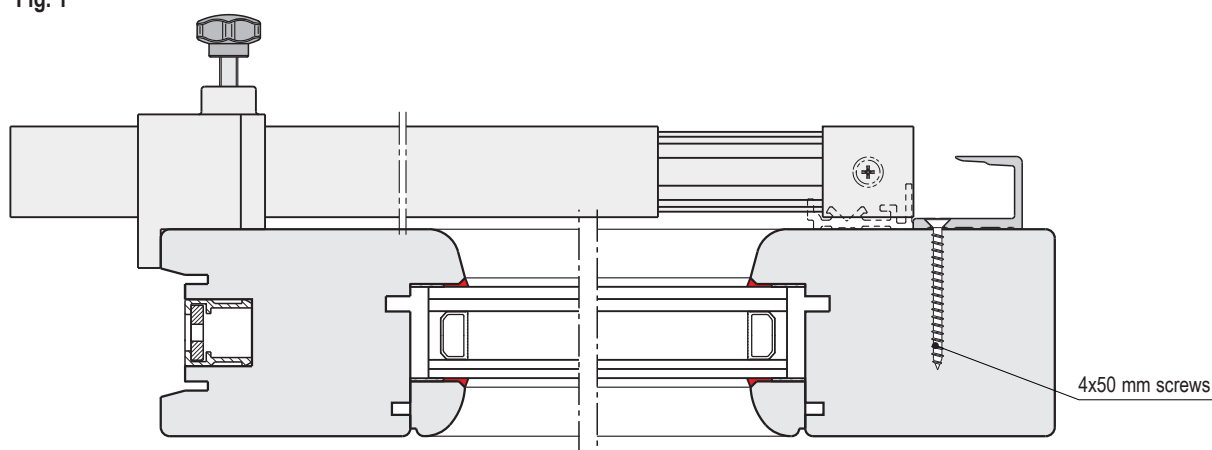

Fig. 2
- 3) Position the jig on the sliding sash and secure the moveable antiburglar kit with 4x50mm screws (Fig. 2).